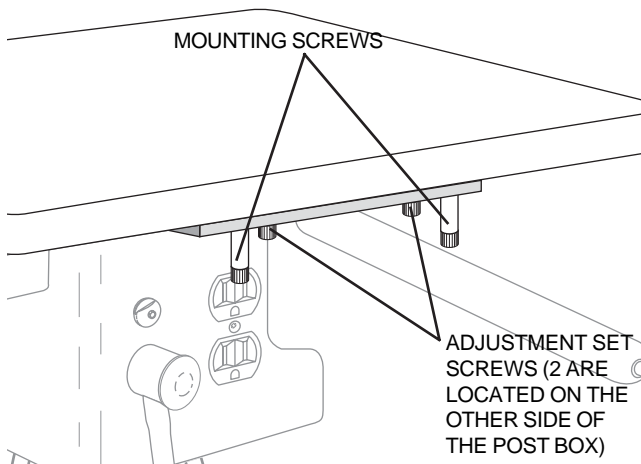

FIGURE 3
2. Using a 3/16" hex key, loosen the four mounting screws in the leveling plate on the underside of the work surface, there is one in each corner of the leveling plate. Do not remove these screws (see Figure 3).
3. Locate the four adjustment screws, there is one in each corner of the leveling plate (see Figure 3).